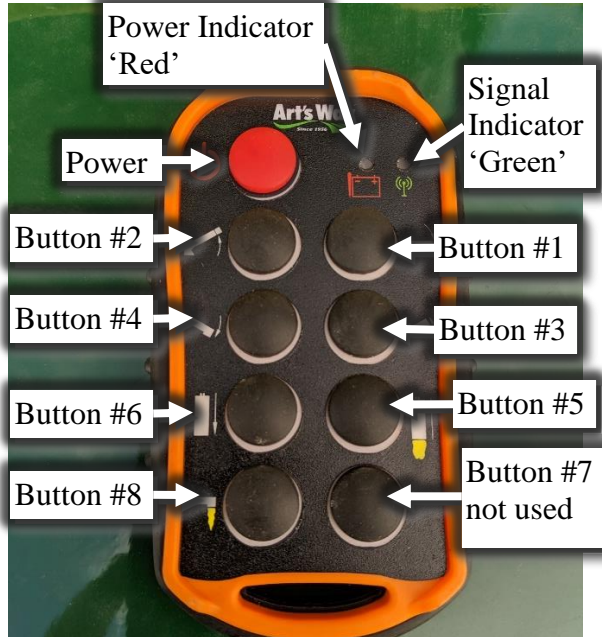
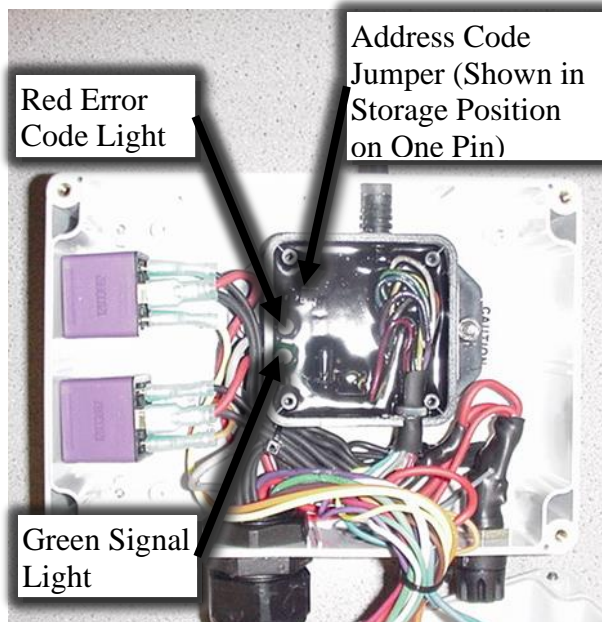

Figure 97 – Macro-Wireless Remote Control Device Button Programming (for Functions see Figure 100).
Figure 98 – Receiver in Complete Control Box with Covers Removed.
NOTE: An internal **rechargeable lithium ion battery** supplies power for the **Macro-Remote Control** (Figure 97).
The Remote Control (see Figure 97) is shipped with all button functions in momentary mode and already synchronized with the Receiver (see Figure 98).
To set Discharge Start/Stop button to latching mode the remote must be in configuration mode. Remove the cover from the Receiver so the LED's are clearly visible (see Figure 98).
2. Turn power on Remote Control (POWER button Figure 97).
3. Simultaneously push buttons #1, #4, & #8 (see Figure 97).
6. Push button #8 (Discharge Auger Start/Stop) (see Figure 97).
1. Remove the cover from both the Complete Control Box and the integrated Receiver (see Figure 98).
3. Place the jumper across the both address code pins inside the Receiver (see Figure 98). Both green and red lights will toggle inside the Receiver.
5. On the Remote Control press and hold the POWER button, button #1, & button #8 (see Figure 97). At this point, both lights will blink on the Remote Control transmitter.
1. With the Remote Control power off press and hold buttons #3, #4, and #8 and then POWER (see Figure 97).